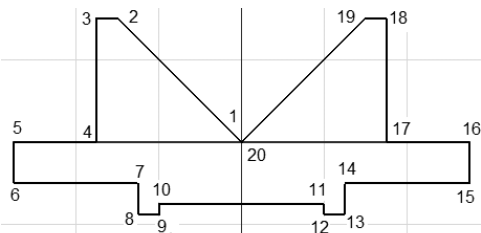

Figure 2-46 Final sketch for Tutorial 1
7. The coordinates of the remaining points (see Figure 2-46) in the sketch are given next.
8. After specifying all points, right-click to display the shortcut menu. Choose **Done** from the shortcut menu or press **ESC** to exit the **Line** tool. The final sketch for Tutorial 1 is shown in Figure 2-46. However, the points in the final sketch in this figure have been numbered for reference only.